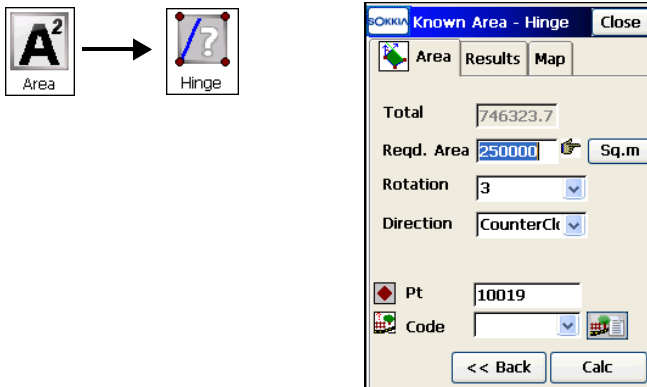

Figure 10-13. Known Area - Hinge – Area Tab 1
On the *Known Area – Hinge* screen (Figure 10-13), the Hinge method calculates the coordinates of a point that meets the following conditions:
1. Select the point list, use the arrow buttons to change the order, as desired and tap the **Next** button (Figure 10-13 on page 10-12).